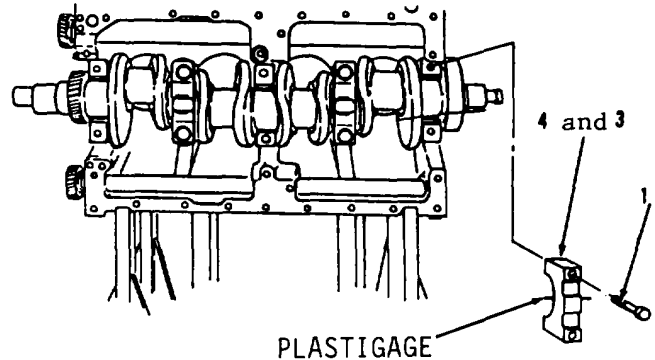

Figure 13-22.
8. Position one piece of plastigage inside surface of lower main bearing (4) in each crankshaft bearing cap (3, Figure 13-22).
14. Remove six bolts (1) and three items 3 and 4 as an assembly (Figure 13-22).